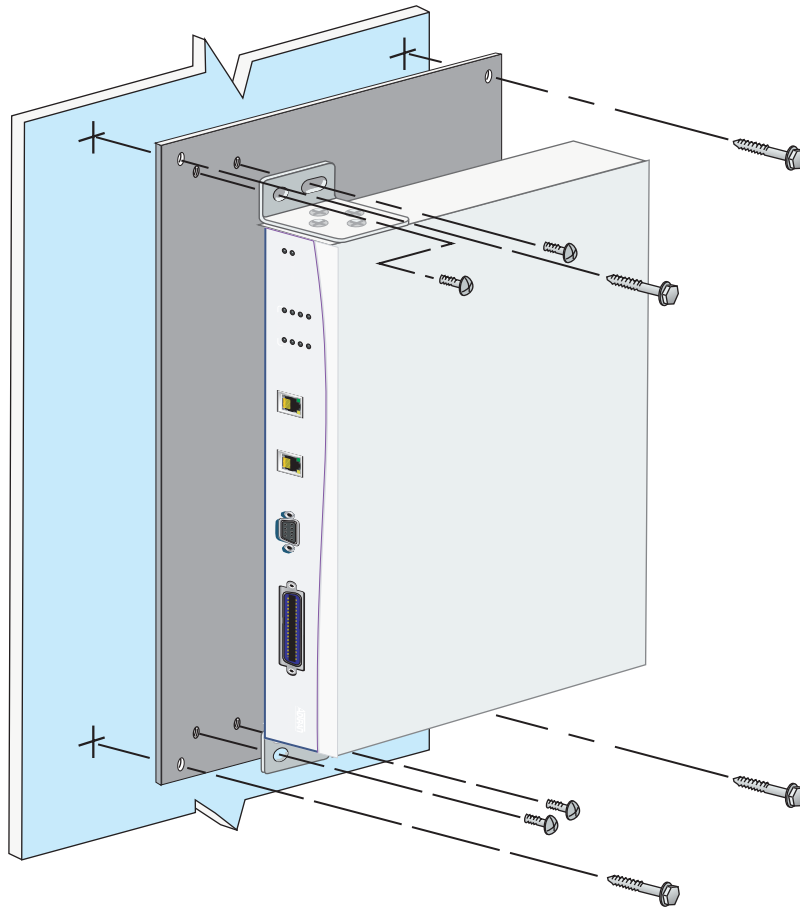

Figure 8. Wallmounting the Total Access 238
2.	<p>Decide on a location for the Total Access 238. The unit needs to be mounted at or below eye-level so that the LEDs are viewable.</p> <p>IMPORTANT! Mount the chassis with LEDs facing to the side as shown in <a href="#">Figure 8</a> on page 9 (not facing up or down).</p>